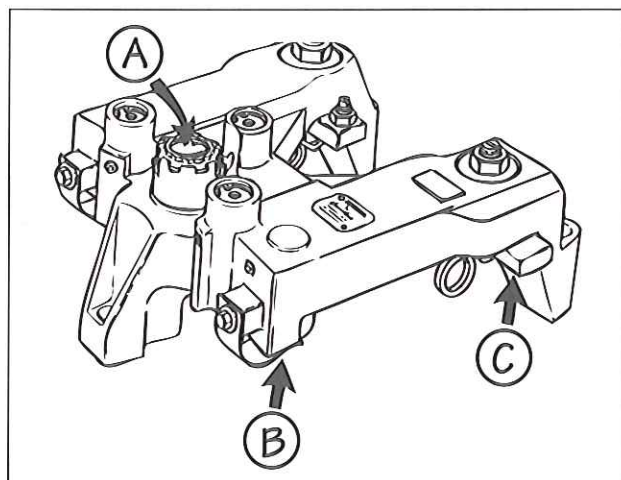

FIG. 36
2. Depress and release the engine brake solenoid armature (A, Fig. 36) several times to allow the housing to be filled with oil.
3. Watch the master piston (B) to be sure it is moving down onto the roller in the injector rocker arm.
4. Watch the slave piston assembly (C). It should move down to contact the exhaust valve rocker arm adjusting screws.